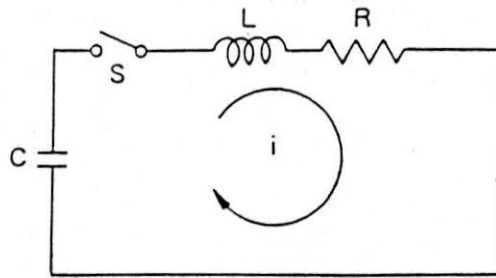
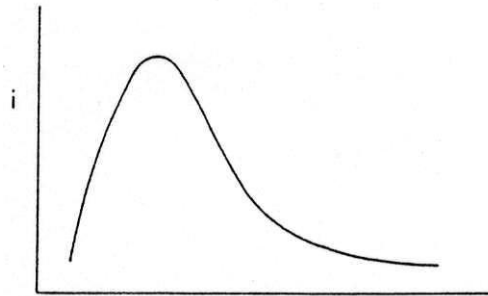

Fig. 26
Fig. 27
1. The electrical schematic of the simulated pulse generator is shown in Fig. 26.
2. Taking time as the horizontal axis and considering the vertical axis as current in the diagram of Fig. 26, the waveform obtained as a result of transient phenomena is as shown in Fig. 27.